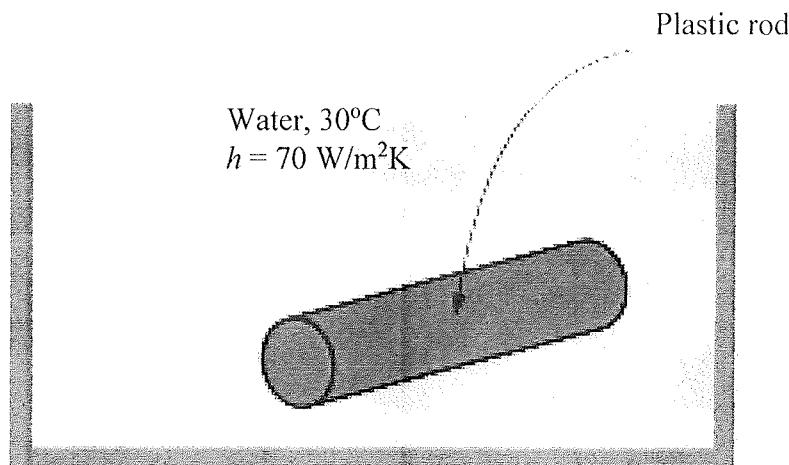

Figure 2. Water bath with plastic rod
- [c] In a quench hardening process during extrusion procedure, a plastic rod ($\rho = 950 \text{ kg/m}^3$, $c_p = 2300 \text{ J/kg.K}$ and $k = 0.63 \text{ W/m.K}$) is heated to a uniform temperature of 200°C and then extruded into a water bath (Fig. 2). The water bath has a uniform temperature of 30°C and convection heat transfer coefficient of $70 \text{ W/m}^2\text{K}$. If the plastic rod has a diameter of 3 mm and a length of 0.5 m, determine the time required to cool a plastic rod from 200°C to 50°C in the water bath.